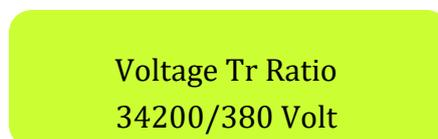

Figure 3.51
The voltage transformer ratio message screen is like in Figure 3.51. The values on the tag of power transformer are regarded. The first statement states the phase-phase primary input of the transformer (34200) and the second statement states the secondary phase-phase output. (380)